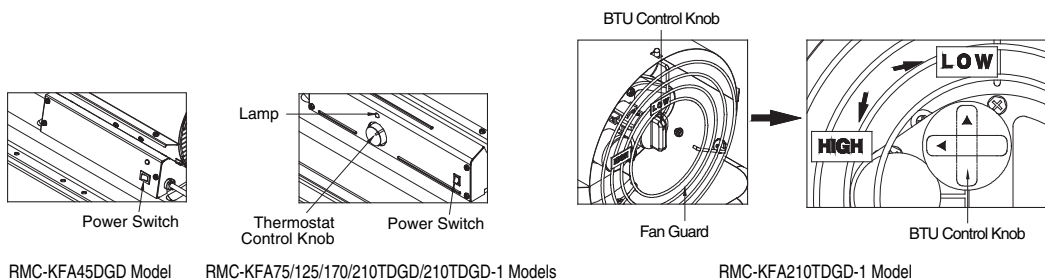

Figure 10. Controls for All Models
5. Turn "BTU control Knob" to desired level "High or LOW" (KFA210TDGD-01 Model only, See Figure 10.)